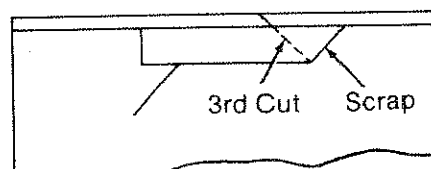

Fig. 118 - Making a 4-Sided Frame
3. Place the same edge of the workpiece against the fence for all cuts. Make the first cut at one end of the workpiece, then flip the workpiece over and make the second cut from the other end. Continue this way until all four cuts are made. (Figure 118)